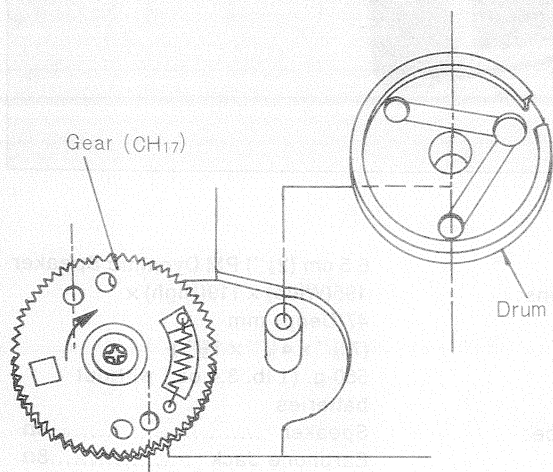

Fig. 4
3. Turn dial gear (Upper Side) to clockwise. (Fig. 4)
4. To mount dial drum. (Fig. 4)